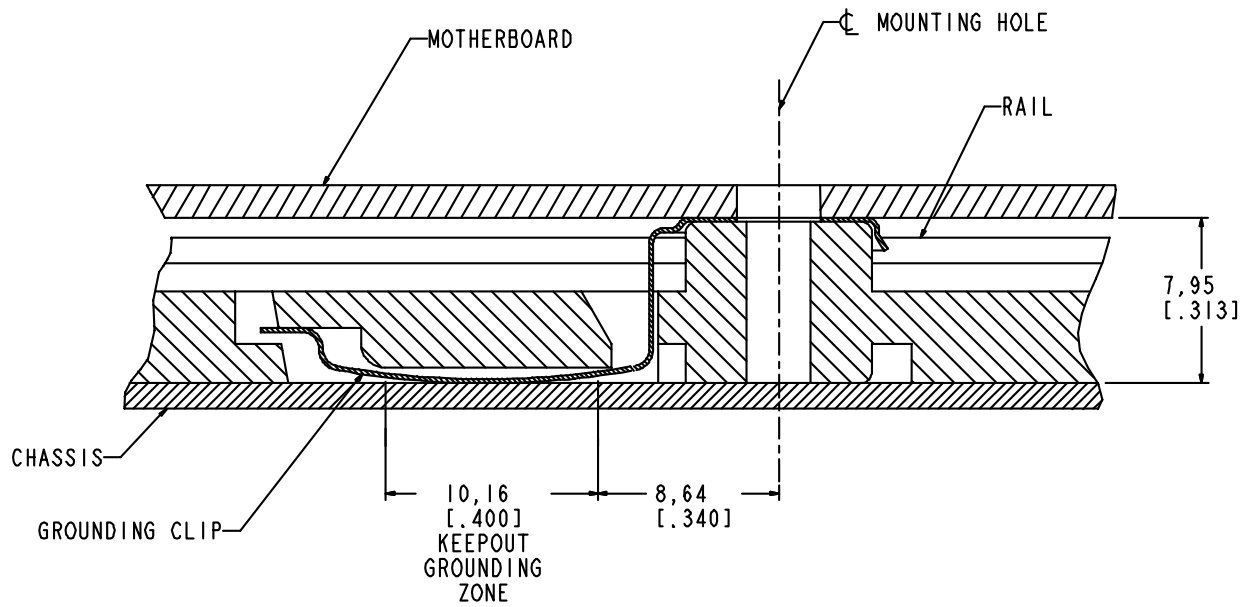

Figure 4: Cross Section Through Rail Assembly
- Figure 4: Cross Section Through Rail Assembly 9
Figure 4 shows the cross section through the motherboard, rail, ground clip, and chassis assembly.